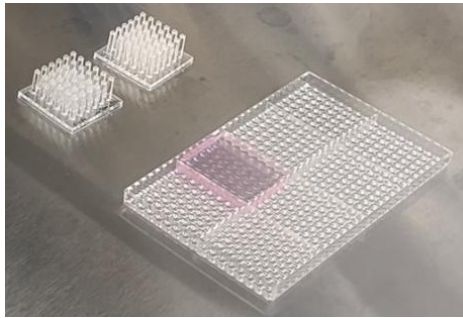

Figure 4. Dispensing 1.5 - 2 mL of the cell-Matrigel mixture per block in the LoadingPlate for rapid loading of the cells on the pillar plate.
13. Place the LoadingPlate on a flat surface, dispense 1.5 - 2 mL of the cell-Matrigel mixture per small block without big bubbles, and spread it properly with the pipette tip (**Fig. 4**).